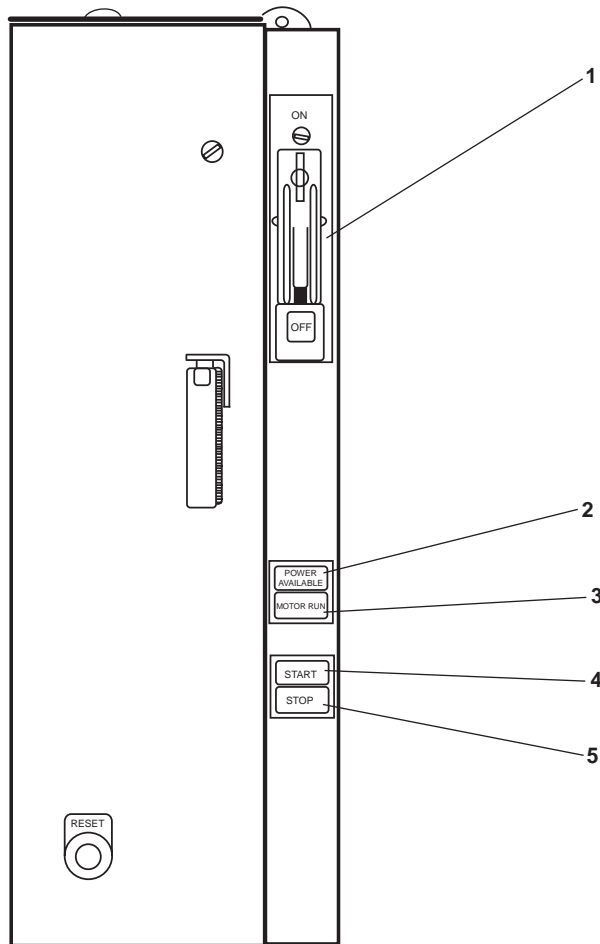

Figure 19. AFFF Pump Motor Controller
- b. At the AFFF pump motor controller (figure 19) complete the following actions:
- (1) Set the ON-OFF switch (figure 19, item 1) to ON.
- (2) Verify that the POWER AVAILABLE indicator (figure 19, item 2) is illuminated.
- (3) Press the START pushbutton (figure 19, item 3).
- (4) Verify that the MOTOR RUN indicator (figure 19, item 4) is illuminated.
- (5) Verify that the AFFF DIFF. PRESS gauge is 5 PSI (0.34 bar) higher than the fire main pressure.
- a. Press the STOP pushbutton (figure 19, item 5).
- b. Observe that the MOTOR RUN indicator (figure 19, item 4) goes out.
- c. Set the ON-OFF switch (figure 19, item 1) to OFF.
- d. Observe that the POWER AVAILABLE indicator (figure 19, item 2) goes out.